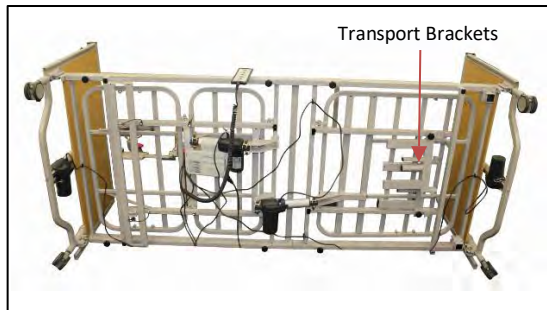

Figure 8: Transport bracket fixing
9. Carefully align the two sections of the bed and slide together (*figure 7*). Tighten the turn screw to secure, then carefully place the bed onto its side to connect the controller and attach transport brackets (*figure 8*).
10. The transport brackets can be safely stored under the bed frame to prevent loss of the brackets. This can be done whilst the bed is on its side. The transport brackets can then be attached to the fixing points onto the underside of the bed as indicated (figure 8). Ensure each bracket is locked in place by securing with a turn screw.